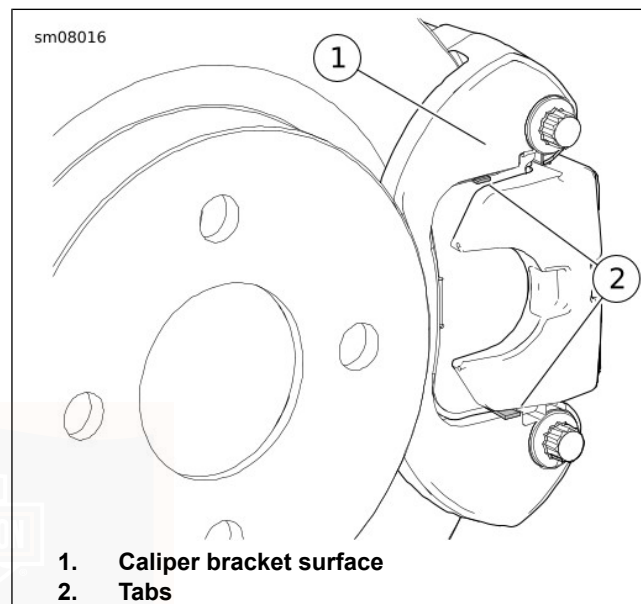

Figure 55. Rear Brake Pad Inspection
3. The rear brake pads have tabs to indicate brake pad wear. Rear pads can be visually inspected for wear without rear wheels removed. See Figure 55. Compare the end of tabs (2) to the surface of the outboard caliper bracket (1). If tab is flush or below surface, see a Harley-Davidson dealer.